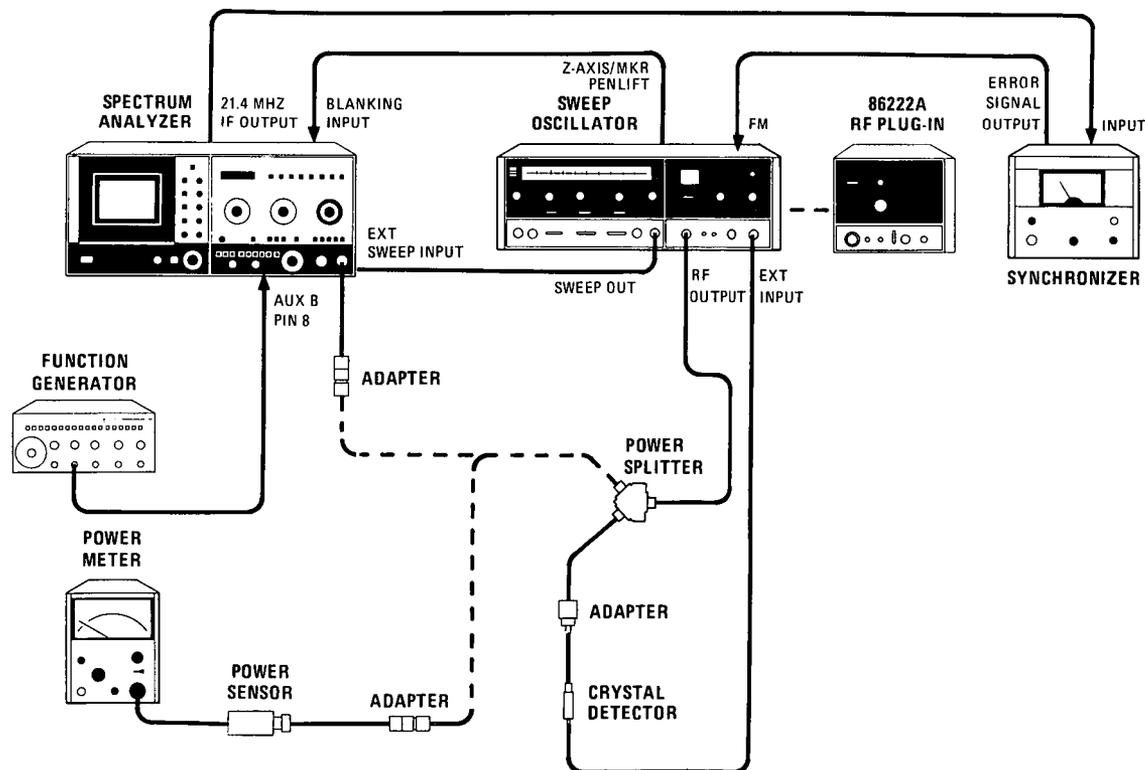
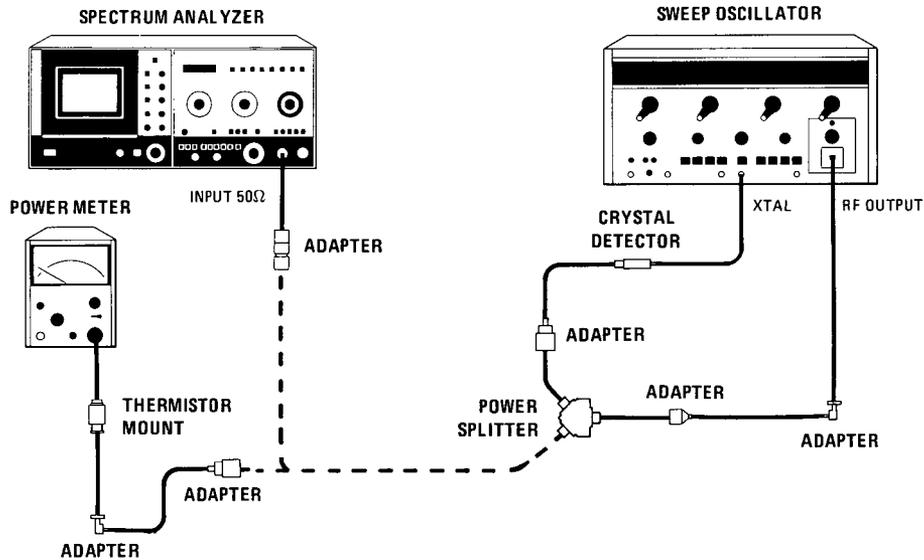

Figure 5-54. Frequency Response Adjustment Test Setup (Configuration A)
Figure 5-55. Frequency Response Adjustment Test Setup (Configuration B)
If an extended range sweep oscillator (8620C/86290A-H08) is available, only the test equipment listed for CONFIGURATION A (Figure 5-54) is required. A standard 8620C/86290A sweep oscillator may be substituted, but then equipment listed for both CONFIGURATION A and B (Figure 5-55) is required.
CONFIGURATION A (Figure 5-54):
CONFIGURATION B (Figure 5-55):
b. Reconnect power cord, set LINE switch ON, connect equipment as shown in Figure 5-54. CONFIGURATION A, and set controls as follows:
- r. Connect 8690B/8696A as shown in Figure 5-55 CONFIGURATION B and set sweep oscillator for a CW frequency of 18 GHz.